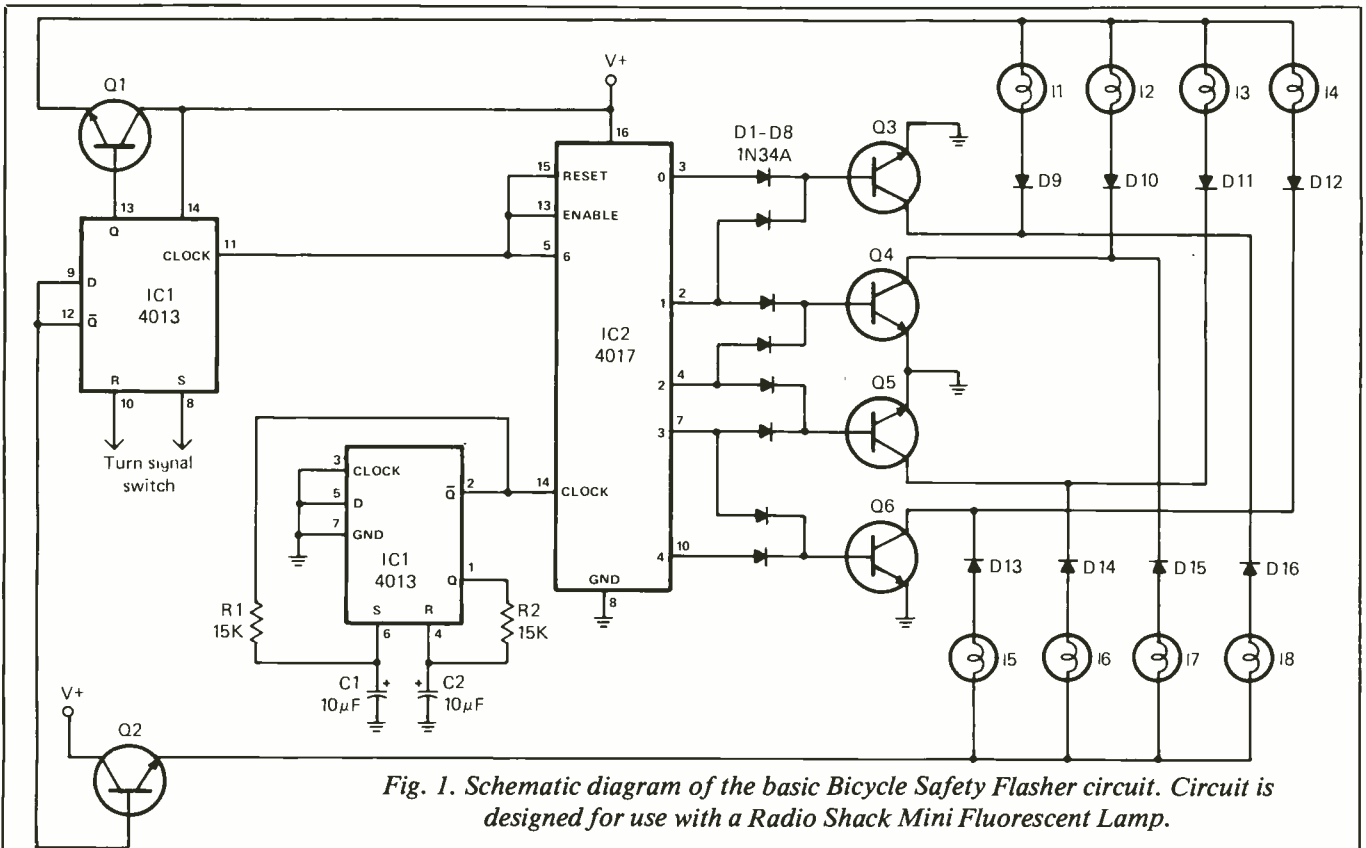

Fig. 1. Schematic diagram of the basic Bicycle Safety Flasher circuit. Circuit is designed for use with a Radio Shack Mini Fluorescent Lamp.
Shown in Fig. 1 is the schematic diagram of the basic Bicycle Safety Flasher. The circuit uses CMOS digital ICs. Type-D flip-flop *IC1* is operated as a free-running astable multivibrator. The complementary outputs of this IC are cross-coupled to the SET (S) and RESET (R) inputs through *R1* and *R2* to set up a feedback loop that toggles the flip-flop from one state to the other to generate a square-wave output signal. An RC timing circuit made up of *C1*, *C2*, *R1*